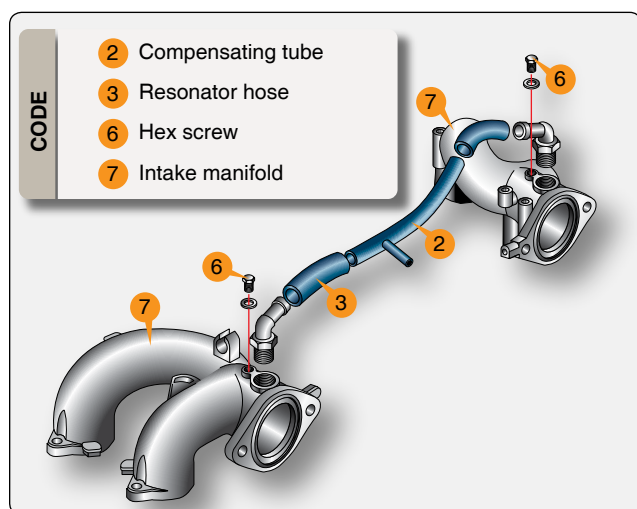
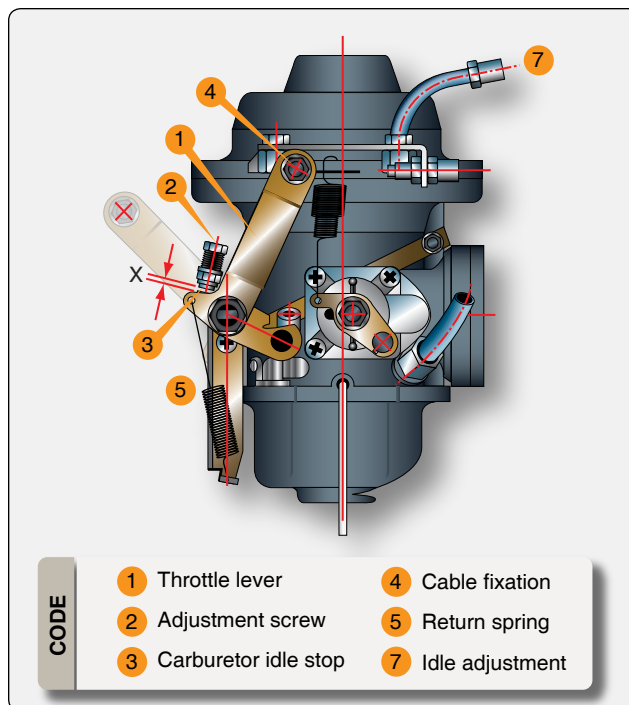
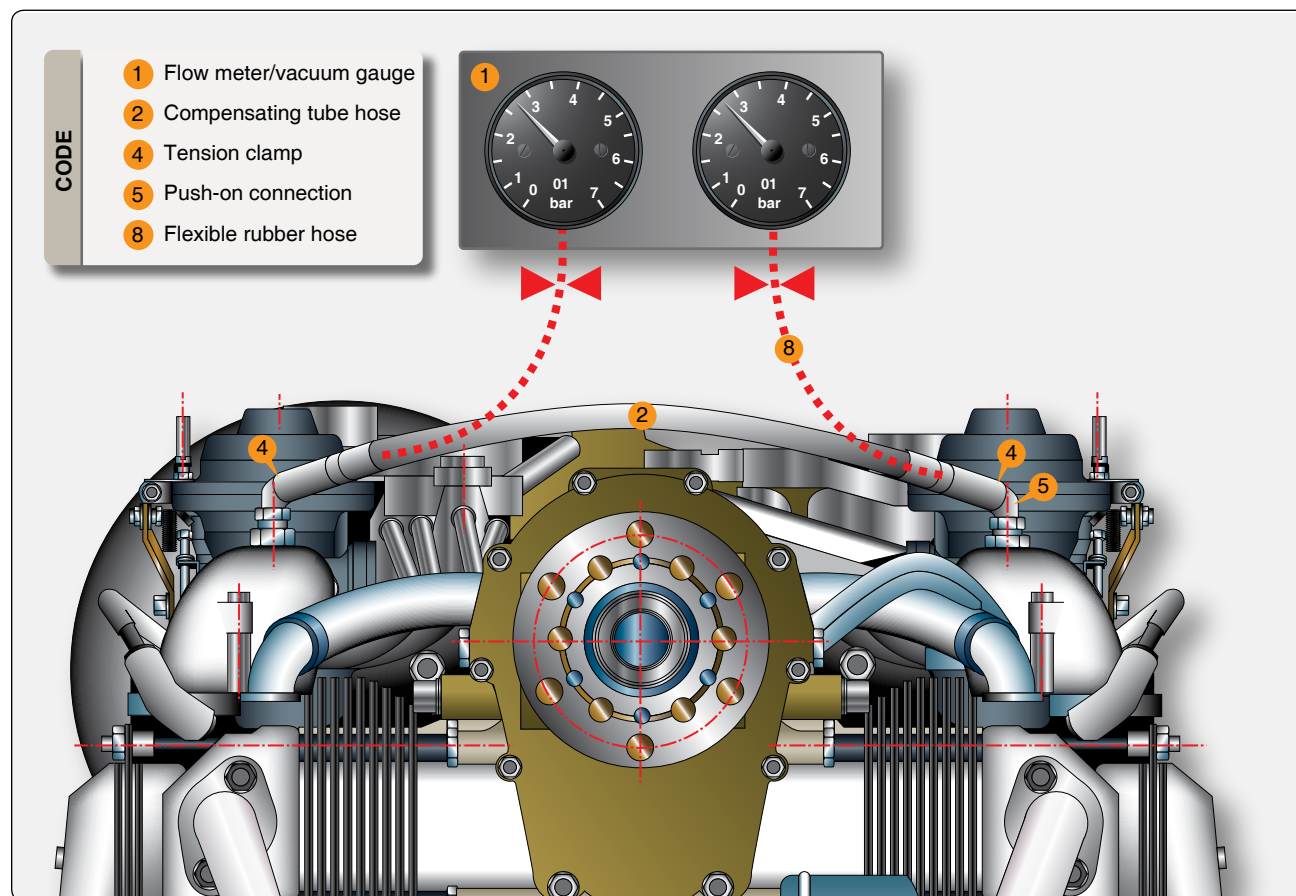

Figure 11-26. Resonator hose and compensating tube.
Figure 11-27. Carburetor throttle lever.
Figure 11-29. Gauges attached to the engine.
For smooth idling, synchronization of the throttle valves is necessary. When synchronizing, slacken both Bowden cables, and detach the resonator hose (3) of the compensating tube (2) to separate the two air intake systems. [Figure 11-26] In this condition, no significant difference in the engine running should be noticeable. If adjustment is needed for synchronous basic throttle adjustments (mechanical synchronization), proceed as follows. [Figures 11-27 and 11-28]
There are two possible methods to connect test equipment. One option is to remove the hex screw (6) M6 x 6 from the intake manifold (7) and connect the vacuum gauge(s). [Figure 11-26 and Figure 11- 29] Remove the compensating tube (2) with attached hoses (12) (connection between intake manifolds) and plug the connections in the intake manifolds. The other hook up option is to remove the compensating tube hose (2) from the push-on connection (5) after removing the tension clamp (4). Using the push-on connection (5), install a flexible rubber hose (8) leading to the vacuum gauge (1), using the balance tube (4). Install the other flexible rubber hose leading to the vacuum gauge. [Figure 11-29] Before proceeding any further, secure the aircraft on the ground
Select full power and check that both pressure gauges are registering the same readings. If the same reading is not made on both gauges, shut down the engine and check that carburetor actuation has full travel and that the chokes are in the full off-position. If necessary, fit/modify the carburetor actuation as required to achieve full power on both carburetors. Once full power has been established on both carburetors, retard the throttle and observe the pressure gauge settings. The pressure gauges should show the same reading for both carburetors. Discrepancies must be compensated for by adjusting the off idle adjustment (7). [Figure 11-27] The carburetor with the lower indication must be advanced to match the higher one. This is done by shutting down the engine and loosening the locknut on the Bowden cable and screwing the off idle adjustment in by ½ turn, then tightening the locknut and retesting the engine. Final idle speed adjustment may be required by resetting the idle speed adjustment screws (2). [Figure 11-27] Equal adjustment must be made on both carburetors.
If satisfactory idle speed adjustment cannot be achieved, inspection of the idle jet or additional pneumatic synchronization is necessary. Always carry out idle speed adjustment when the engine is warm. Basic adjustment of the idle speed is first accomplished by using the idle speed adjustment screw (2) of the throttle valve. [Figure 11-27]
Optimizing the engine run is necessary only if not accomplished at carburetor synchronization. Close the idle mixture screw (6) by turning clockwise to screw in fully and, then, opening again by 1½ turns counterclockwise. [Figures 11-27 and 11-28] Starting from this basic adjustment, the idle mixture screw (6) is turned until the highest motor speed is reached. The optimum setting is the middle between the two positions, at which an rpm drop is noticed. Readjustment of the idle speed is carried out using the idle speed adjustment screw (2) and, if necessary, by slightly turning the idle mixture screw again. Turning the idle mixture control screw in a clockwise direction results in a leaner mixture and turning counterclockwise in a richer mixture.